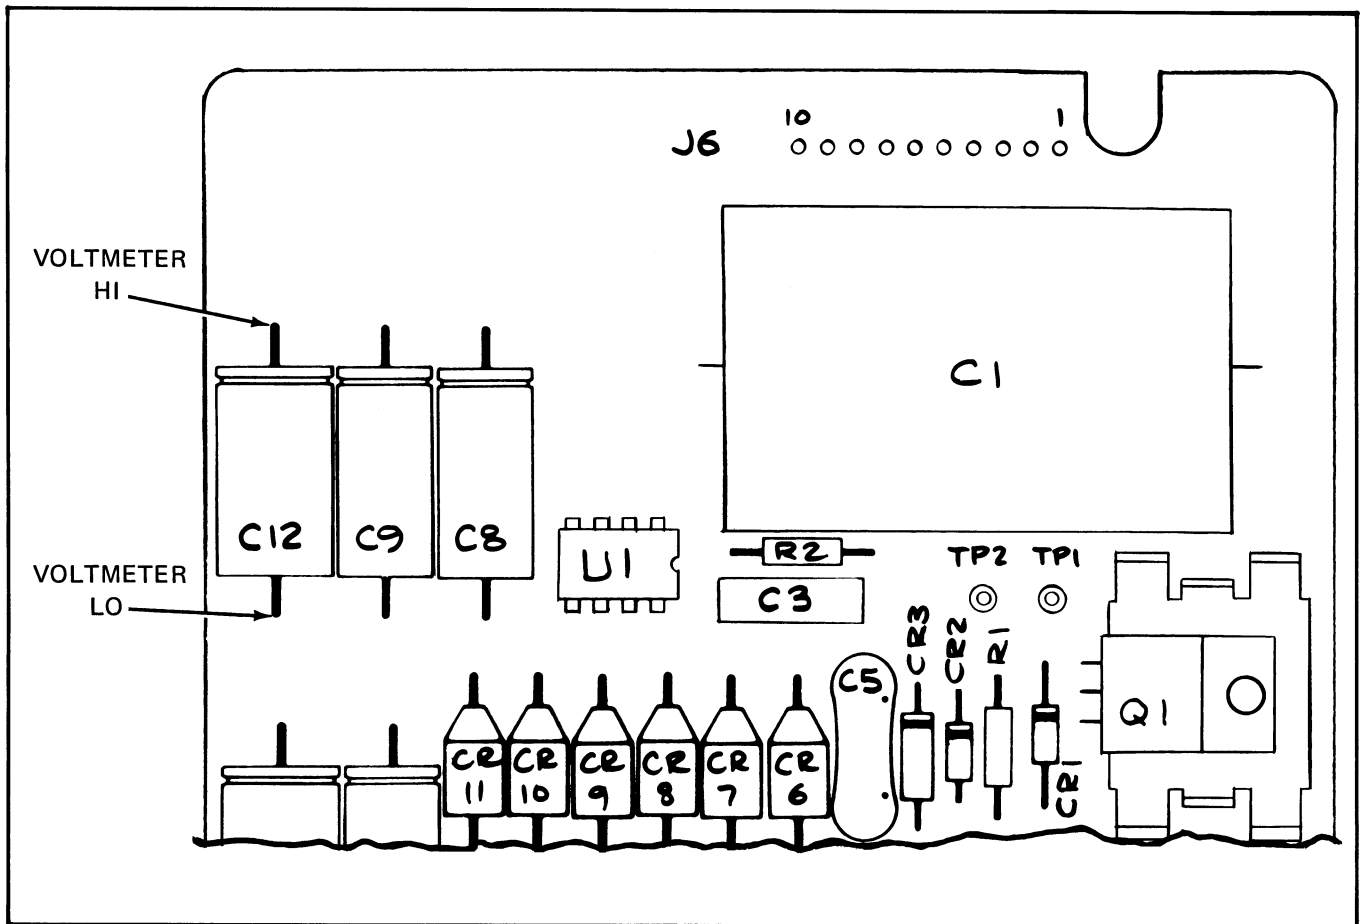

Figure 4-1. TEST EQUIPMENT CONNECTION FOR POWER SUPPLY ADJUSTMENT
- a. Connect the positive input lead of the voltmeter to the junction point of C12, CR10, and CR11 (on the Power Supply PCB) and the negative input lead to the logic common side of C12 (See Figure 4-1).
- c. Check the voltage between TP1 (HI) and TP2 (LO); it should be $10.5\text{V} \pm 0.1\text{V}$.